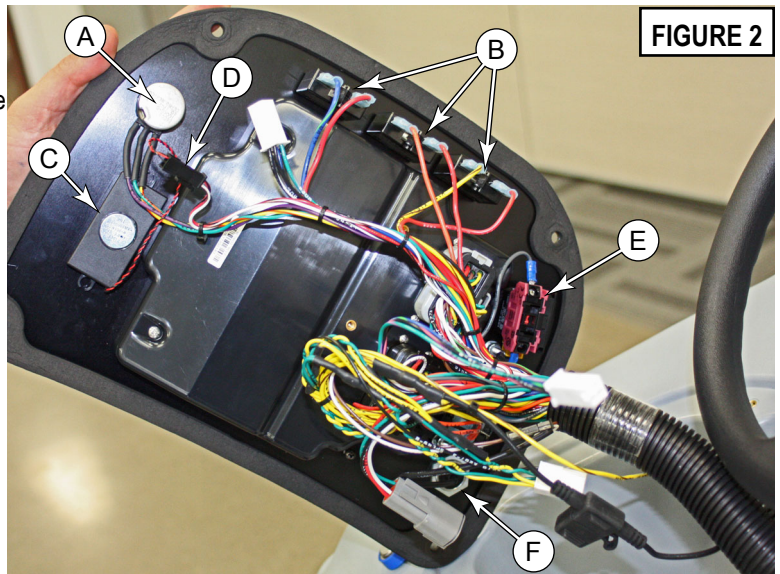

FIGURE 2
7. **See Figure 2.** Remove the potentiometer **(A)** from the back of the interface panel.